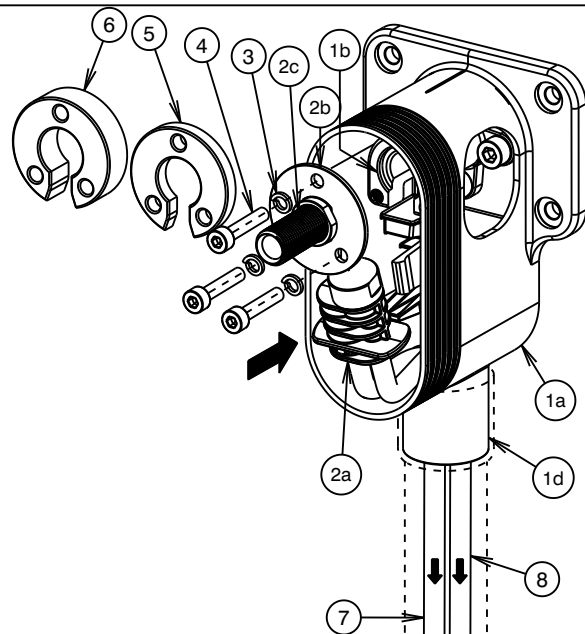
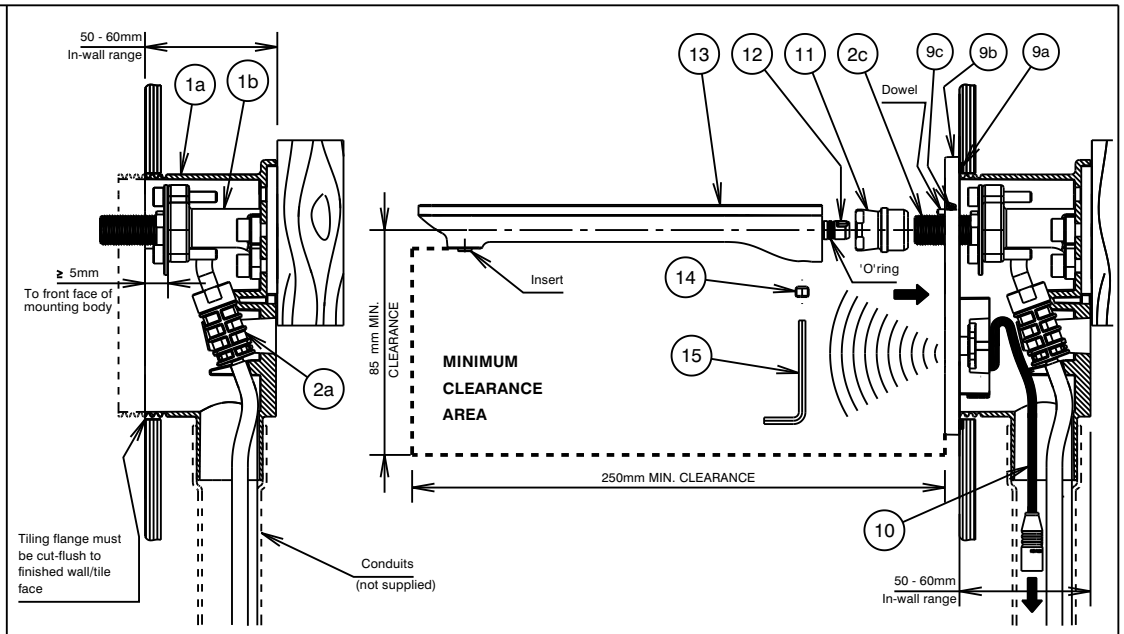

Fig.2 - Mixing valve installation
Fig.3 - Cover plate & outlet installation
- * Sensor beam must not be obstructed within the range shown in Fig. 3.
- * Trim kit (2-38) and body kit (1) are supplied separately.
- * It is recommended to use water based foam soap; However, a non-water based liquid soap can also be used. Soap solution viscosity should be within 100 to 2500 cps. For high viscosity soap solutions, the foam level knob (37) must be set to minimum at '-' no air to enable smooth dispensing. For water based solutions, the foam level knob (37) must be turned anti-clockwise towards '+' max. air.
- * Connection point (1d) is provided for terminating standard 25mm electrical conduit upto the control unit (16) mounted in front of the wall.
- * The allowable in-wall range from finished wall/tile face to the noggin is 50 - 60mm, Fig. 3.
- 2) Check that the tiling flange on the housing (1a) is flush with the finished wall/tile face, Fig. 3. Cut if required.
- ii) Check that the front face of the mounting elbow(1b) is at least 5mm from the front of finished wall/tile face (See Fig. 3). 5mm spacer (5) & 10mm spacer (6) are provided to bring the outlet forwards if required. Spacers (5) or (6) can be placed between item (2b) and body (1b), see Fig. 2.
- iii) Insert the soap & air tubes (7) & (8) into the housing (1a) and pass them through the hole of connection point (1a) as shown in (Fig. 2). Wire draw/fish tape can be used by carefully tying it to the tubes and pass through the conduits (not supplied) until the tubes come out at the open end. Do not pull the soap tubes out forcefully. Place the mixing valve (2a) inside the housing as shown in (Fig. 2 & 3).
- iv) Fit the spring washers (3) onto the 3 screws (4).
- v) Align the 3 holes on the flange (2b) with the holes on mounting body (1b), insert screw (4) along with washer (3) through the flange (2b) and into the threaded hole in body (1b). Then fit the remaining screws in remaining 2 holes in similar manner and tighten using 3mm allen key.
- vi) Ensure foam seal (9a) & 'O'ring (9c) fitted on to wall cover plate (9b), insert black sensor cable (10) from the cover plate (9) into housing(1a) and pass it through the hole of connection point (1d) as shown in (Fig. 3). Continue feeding the cable through the conduits(not supplied) until the black cable end comes out the open end in front of the wall. Slide cover plate (9) over threaded nipple (2c), position the cover plate by keeping the sides vertical, push wall cover plate (9) firmly against the wall/tile face. Screw the adaptor (11) onto threaded nipple (2c), using a wrench tighten it untill the cover plate (9) is held securely against the wall/tile face as shown in (Fig. 3). DO NOT OVERTIGHTEN.
- vii) Ensure the 'O'ring fitted onto the outlet tube (12), align two holes behind the outlet (13) with two dowel pins on wall cover plate (9), position the outlet spout insert vertically pointing down as shown in (Fig. 3). Tighten grub screw (14) using allen key 2.5.